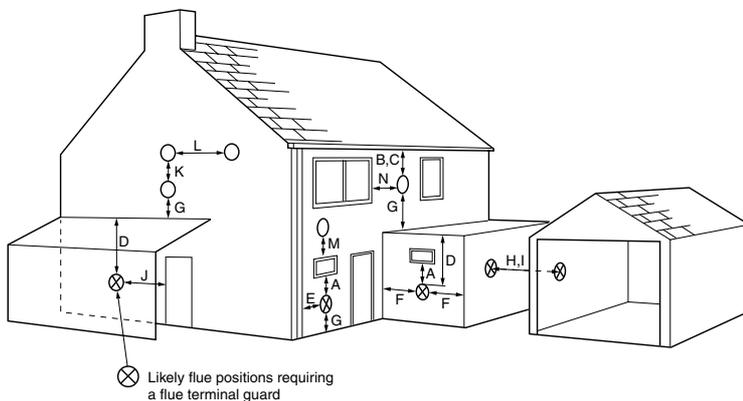

Fig. 11
Terminal Position with Minimum Distance (Fig. 11) (mm)
5. See Section 7.5 "Location" for details of which walls the terminals may be located on. Minimum clearances from the flue terminal are given in Fig. 11 and the accompanying table.